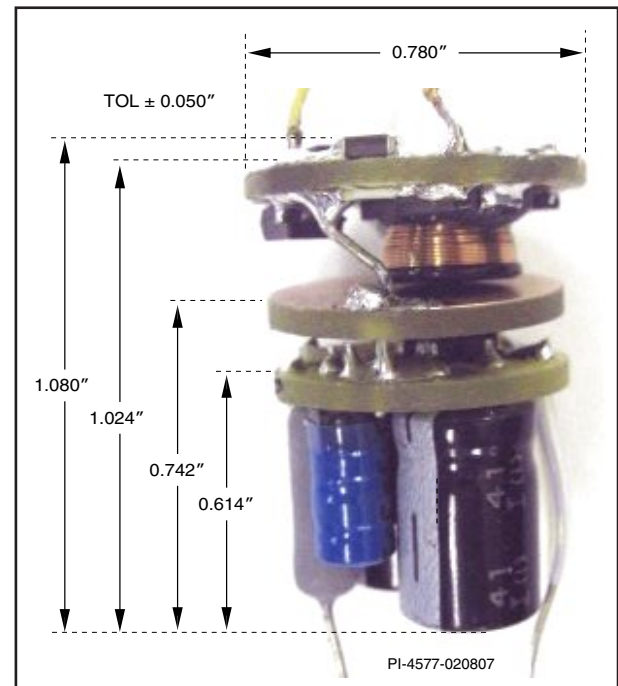

Figure 3. Assembled Unit, Dimensions: 0.78 x 1 inch (19.8 x 25.4 mm).
- To prevent EMI coupling between the switching nodes on the main board and the input filter board, a shield board (connected to the input capacitor position) was placed between the two PC boards (see Figure 3). This greatly improved the margin to the conducted EMI limits.